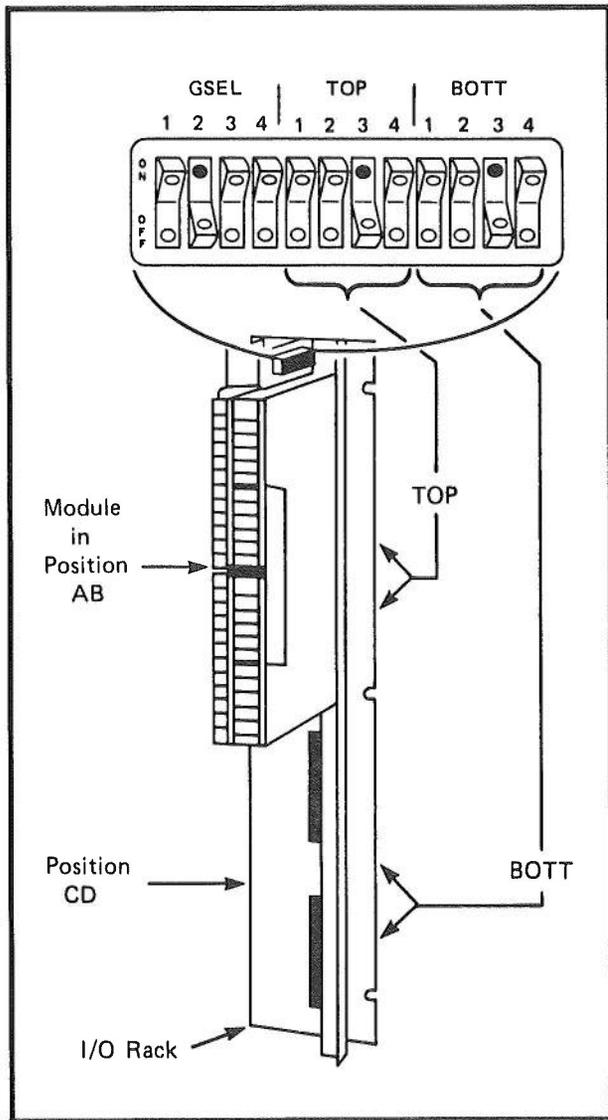

Figure 5 — Vertical Rack Switch Location
Step 4 – Refer to system drawings and determine which I/O rack and which position in the rack the module is to be placed. (Although a module can be placed in either the upper 2 positions or the lower 2 positions, it may not straddle positions B and C. See Figure 5.) Also, it is important that it be placed according to the user program reference scheme.
Step 4 — At the top right-hand side of that I/O rack, locate the rack switch assembly. (See Figure 5.) Note that it is divided into 3 groups of 4 rocker switches each. Locate those that make up the GSEL area.